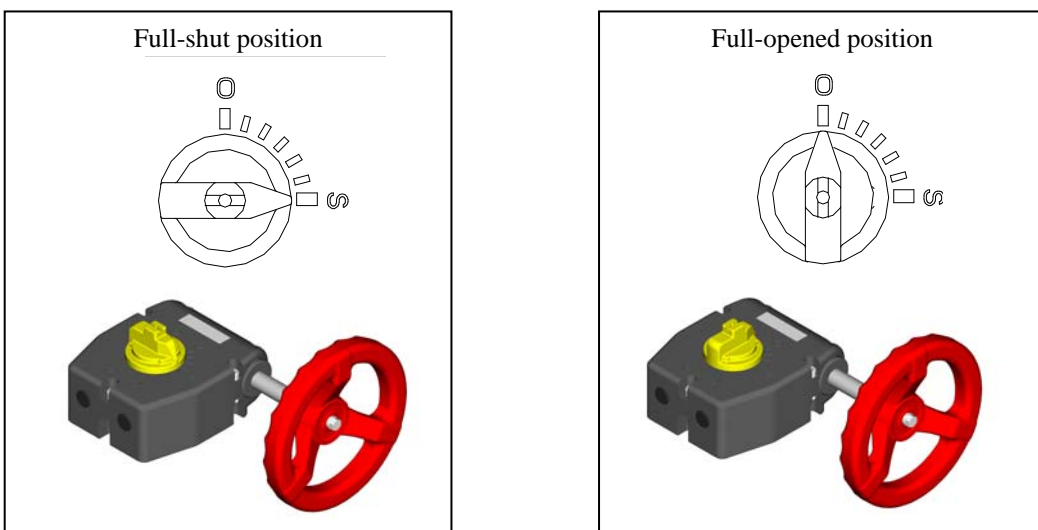

Fig. 3
- 3) In case of side gear type (50-250mm {2"-10"}), the indicator shows the position of the disc on the top of gearbox (Fig.3).